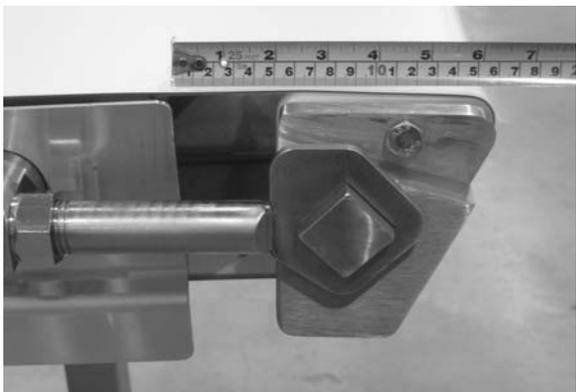
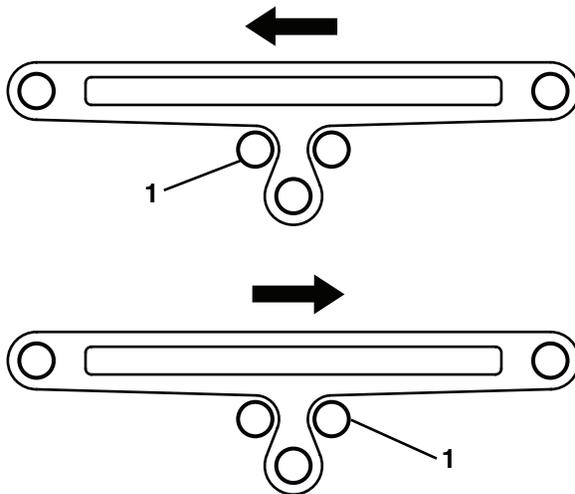

Figure 52
Figure 55
When installing a new belt, set conveyor tracking elements to the "zero position" and start the tracking procedure. The zero position is when the tails are tensioned out to the 6" dimension as shown in (**Figure 52**, and the infed tension roller (**Figure 55, item 1**) on the center drive assembly is set to its outermost position (roller away from center of box, against guard).
Tracking of belt through the center drive is done by adjusting the position of the infeed roller (**Figure 55, item 1**) on the center drive assembly.